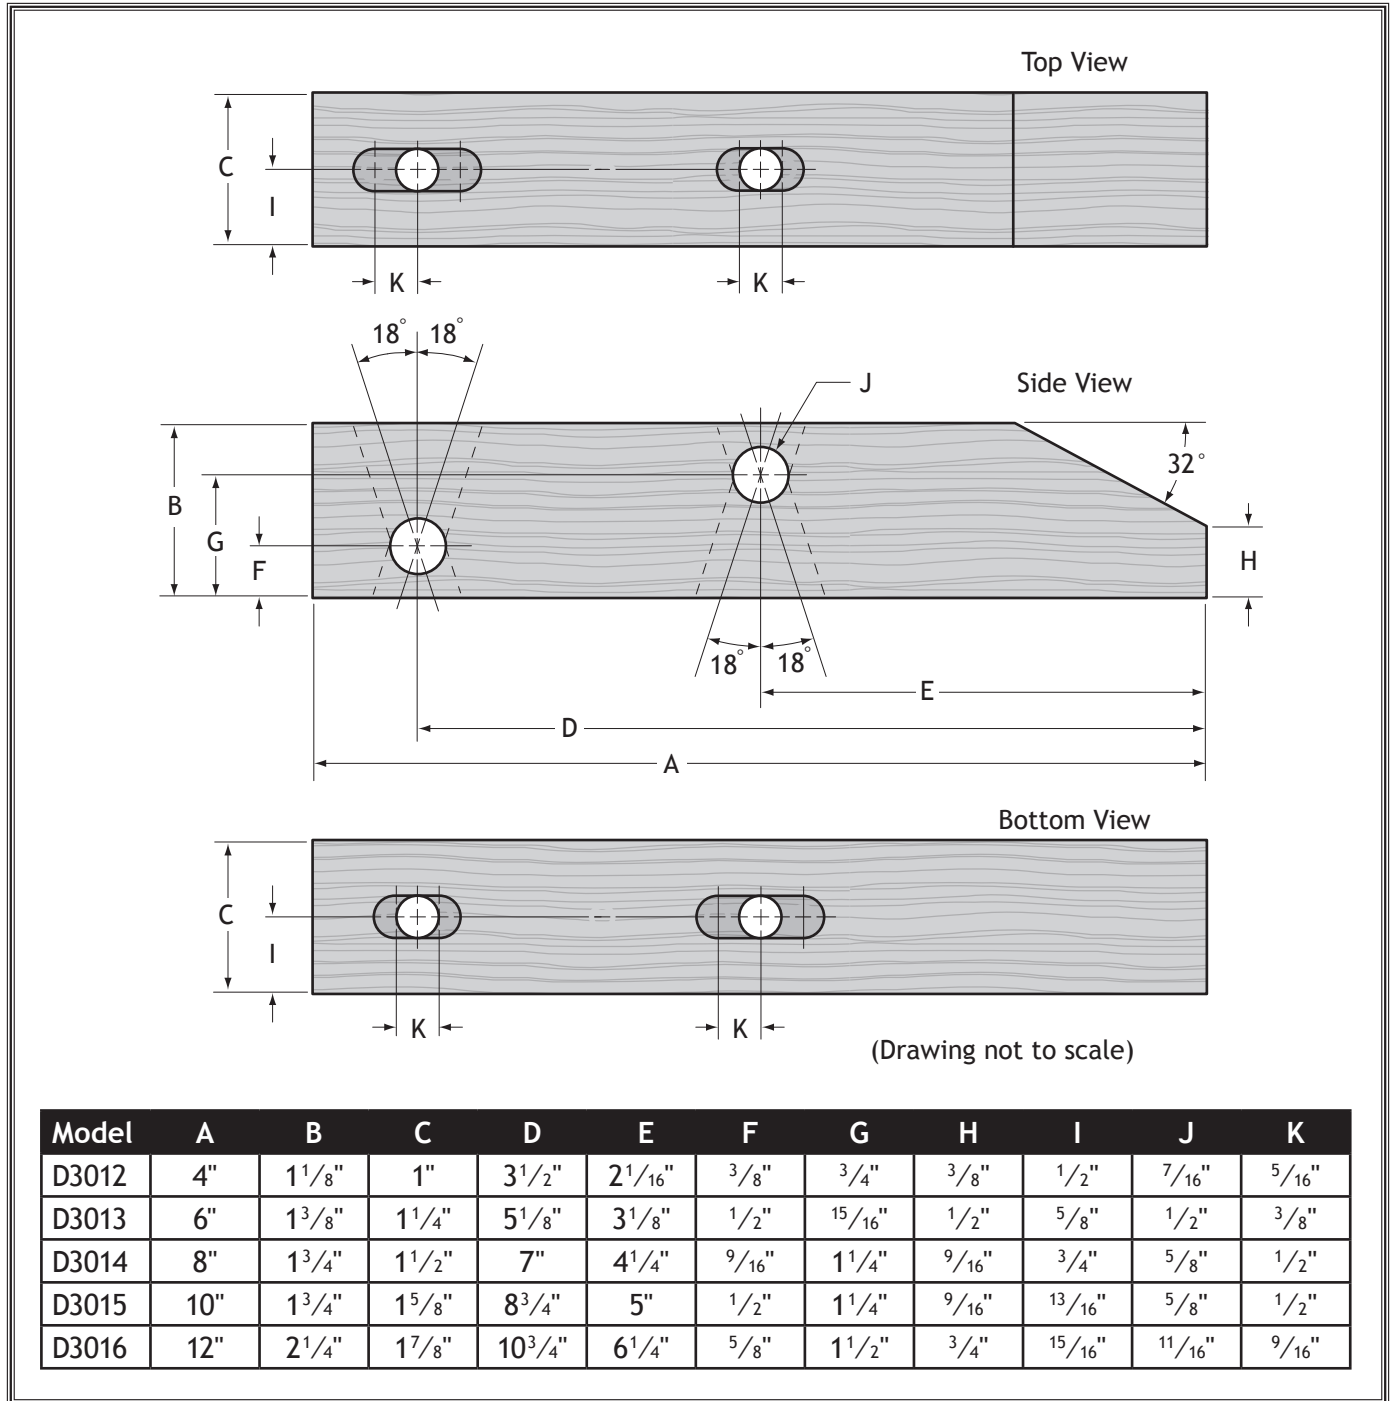

Figure 2. Sizing information.
1. Use the drawing and dimensions from **Figure 2** or your own design to cut out the shape of the clamp jaws. Sand all edges to reduce splinters and workpiece marring.
2. Drill four holes for the dowel pins in the locations shown in **Figure 2** or the approximate locations shown in **Figure 3**. Refer to **Sizing Information** on the **Page 2** for the proper hole size.